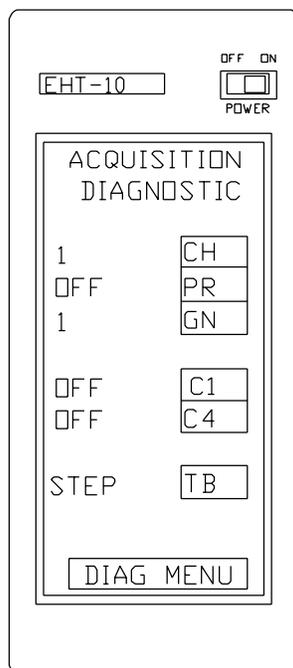

Figure 17 Acquisition Diagnostics Screen
- * Press **Acquisitn** on the Diagnostics Functions menu. The hand terminal displays the Acquisition Diagnostic screen, as shown in figure 17.